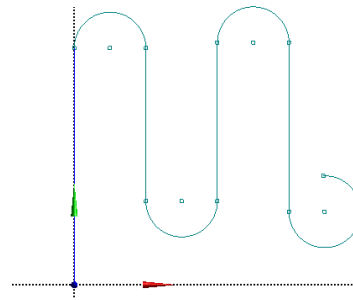

Figure 3-73 Final sketch after the arc 4 is drawn
33. Next, move the cursor toward right and then create an arc similar to the one shown in Figure 3-73.